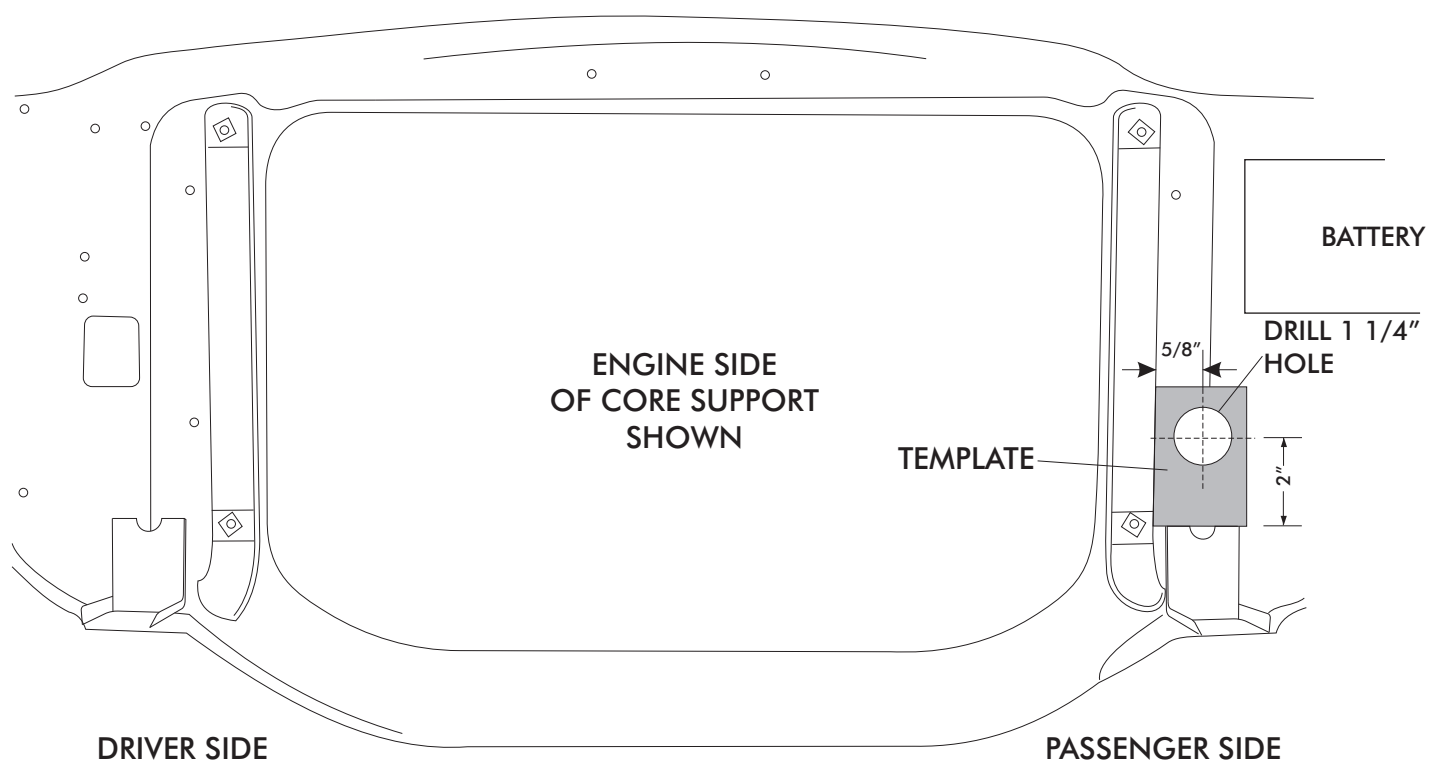

FIGURE 5
- ☐ USING A 1 1/4" HOLE SAW, DRILL HOLE IN CORE SUPPORT . (SEE FIGURE 5 BELOW)